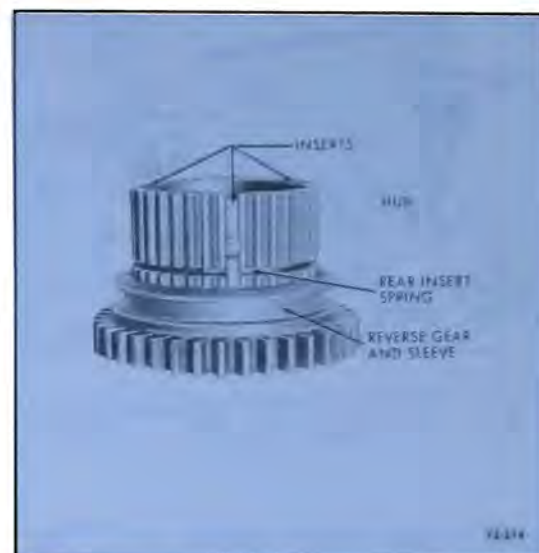

Figure 72-214—Positioning Inserts
3. Position the three inserts in the hub with the small end over the spring and the shoulder on inside of hub. See Figure 72-214.